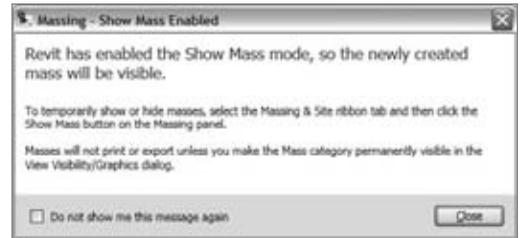

Figure 14.9
**Show Mass tool** The Massing category visibility can be turned on and off with the Show Mass tool (  Show Mass ). It is a global toggle (similar to how Thin Lines mode works) that will keep you from having to manage mass visibility independently for each view. This toggle does not affect final printed output, but is rather an in-process tool to aid your workflow. The Show Mass toggle will be enabled when you first make a mass. When you try to place mass or create mass for the first time, you'll most likely get the message in Figure 14.9, which conveys information about the visibility of mass elements.